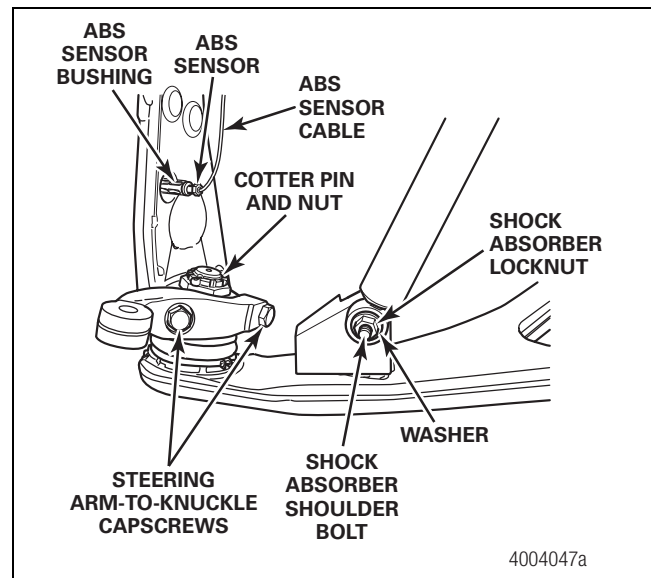

Figure 5.4
1. Remove the lower shock absorber nut, washer and bolt. Figure 5.4.
2. Remove the two capscrews that secure the steering arm to the knuckle. Remove the steering arm. Figure 5.4.
3. Remove the ABS sensor and ABS sensor bushing from the knuckle. Figure 5.4.
5. Remove the cotter pin and nut that secure the knuckle to the lower control arm ball joint. Figure 5.4.